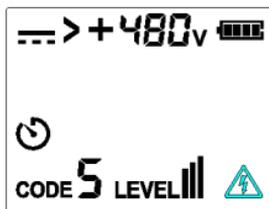

Figure 9.1g – DC Voltage (>480V) Measurement
8. When the voltage is 8V~480V DC/AC (50/60Hz), and the measured voltage is greater than 480V, then display will appear the same as **Figures 9.1g, 9.1h** and **9.1i**.